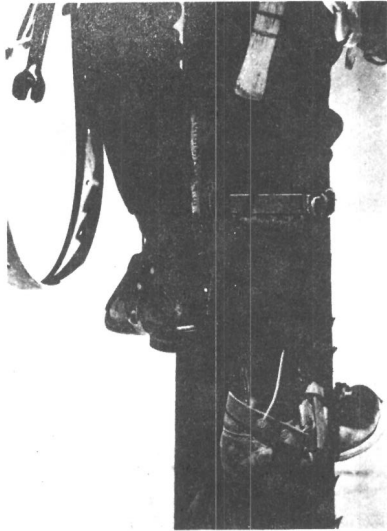

FIGURE 31.
c. The body weight is raised to the left (high) climber. The right (lower) gaff is removed from the pole and moved around to the left. The gaff of the right (lower) climber is lowered into the pole with the same leg and body action used in descending a pole. That is, the leg is kept straight, the gaff aimed at the "heart" of the pole, and the body weight lowered to the gaff. The lower gaff is not stroked. Figure 31 shows the position of the feet just after the body weight has been transferred to the lower (following) gaff.